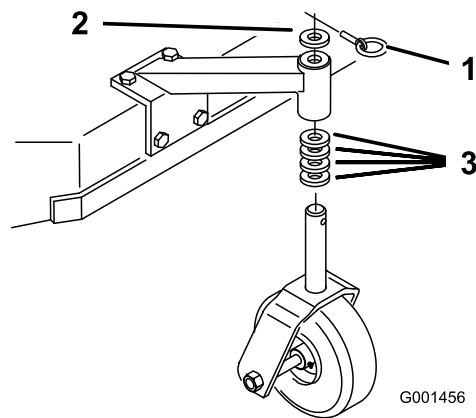

Figure 19
1. Using the Height-of-Cut Chart, adjust the caster spacers to match with the axle hole selected (Figure 19).
2. Remove the latch pin, slide the caster from the support, and change the spacers (Figure 19).
3. Install the caster in the support and insert the v pin (Figure 19).